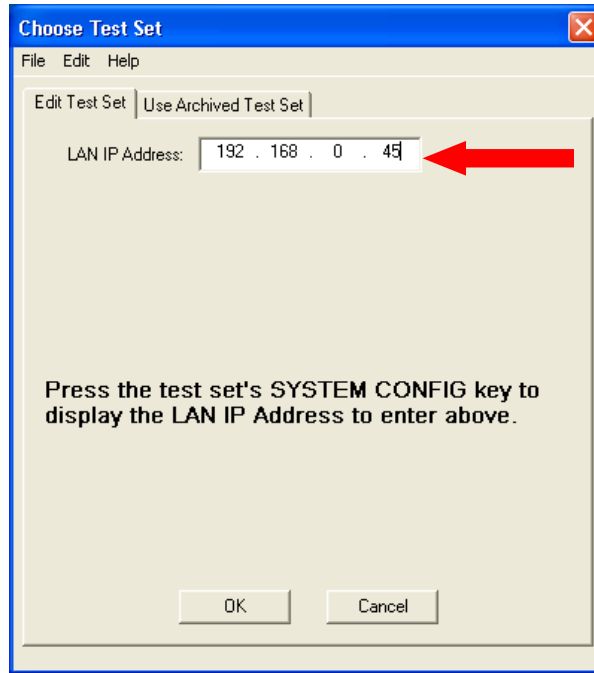

Figure 7: Test Set IP
- h. Enter the IP address for the 8960, as shown in Figure 7. For a T hardware or High Speed unit; this would be the IP address of the LAN 1 port.